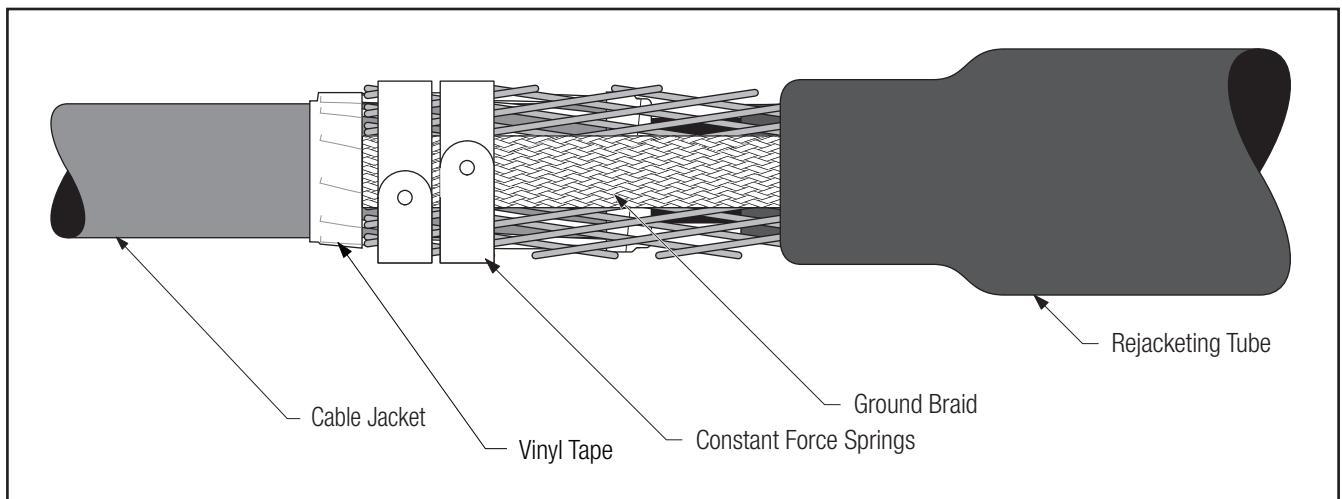

Figure 16
- 5.2 Hand-tighten the shield sleeve outward and secure it (along with the ground braid if not grounding externally) to the neutral wires on either side of the splice using two constant force springs on each end between the vinyl tape at the jacket edge and the vinyl tape as shown (Figure 16).
- 5.3 If shield sleeve extends beyond neutral wires, it may be interwoven with the constant force springs. Trim excess ground braid if needed. Cinch (tighten) the spring after wrapping the final winding (Figure 16).